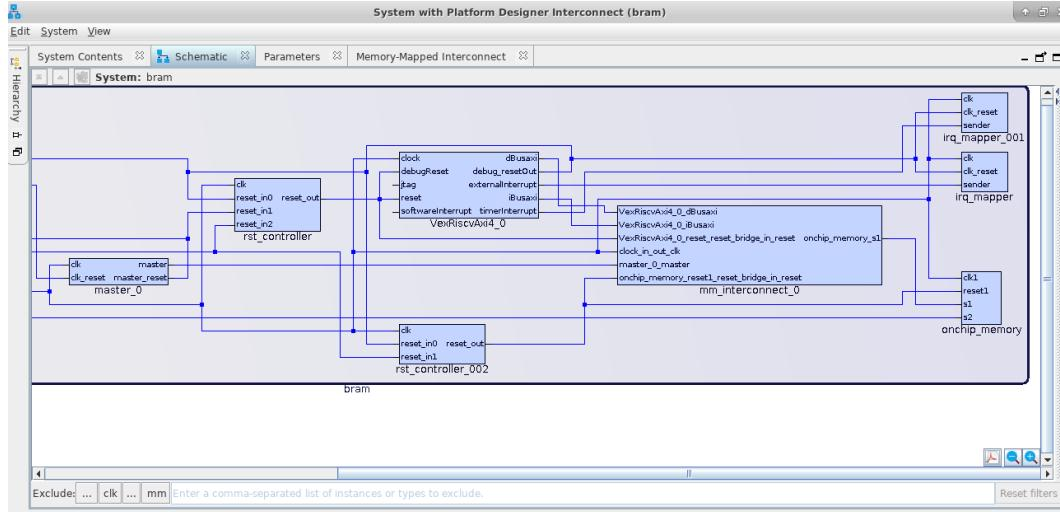

Figure 45: Design of AFU
- RTL description of the SoC system with VexRISC-V(AFU) to accelerate on Intel FPGA PAC card. Fig. 45 shows all modules are integrated to build AFU.